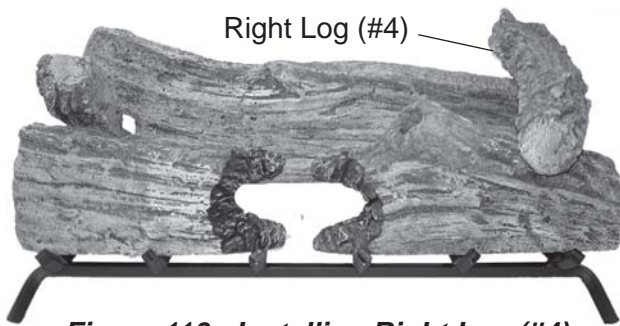

Figure 116 - Installing Right Log (#4)
6. Rest front end of Right Log #4 on right top of Log #1B. The back end of Log #4 rests to right hump on Log #3. See Figure 116.